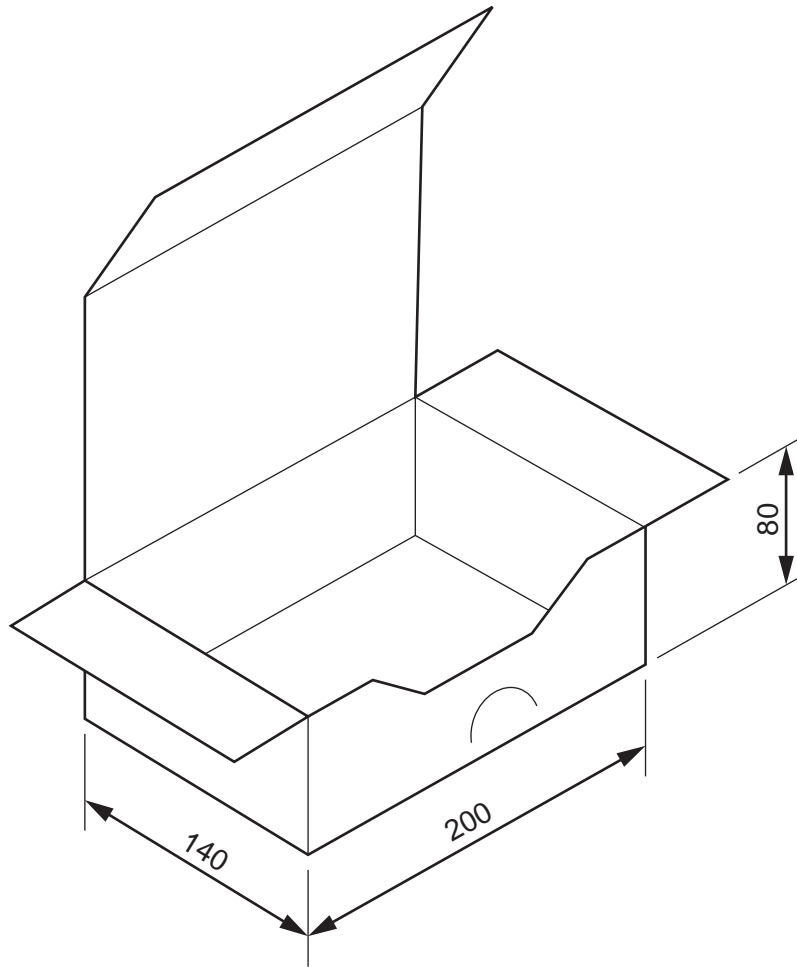

Fig. 4
- 3 Fig. 4 shows a card box which is to be made in a school workshop.
Three of these inserts will be packaged in the box shown in Fig. 4.